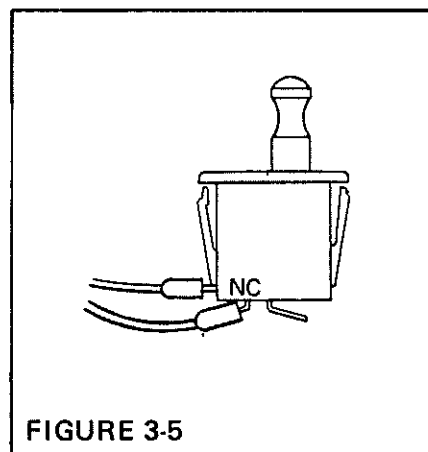

FIGURE 3-5
19. Position the fender in place and connect the two wires to the seat switch and secure fender. See Figure 3-5 for seat switch connection.